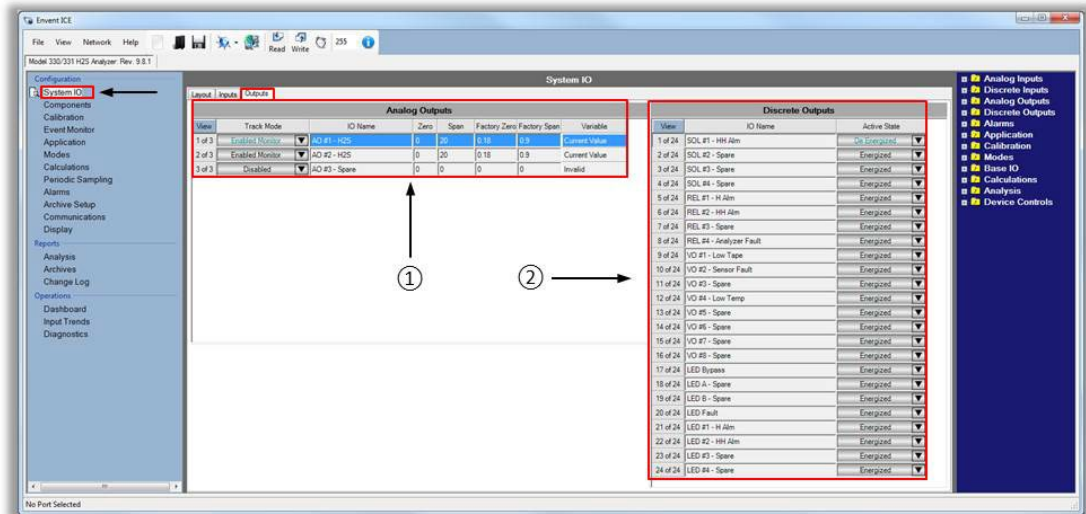

Figure 5. ICE Software: Configuration: System IO Tab: Outputs Tab
In this section of the ICE software, analog and discrete outputs are factory configured. To access the analog and discrete outputs, go to System IO>Output Tab. Refer to Figure 5.
This option allows activating or deactivating the analog output. Refer to Figure 5 area ①
IO Names are names assigned to the analog outputs. The name is up to the user's discretion. Figure 5 area ① shows the analog output names as "H₂S" as default for standard configurations.
These columns refer to the range being measured. Since the variables used for the analog outputs are the analyzer H₂S readings, the zero and span values are 0 to 20 ppm of H₂S (for standard configurations). Refer to Figure 5 area ①
In this section of the ICE software, discrete outputs are named and their status states are set-up. Refer to Figure 5 area ②.
IO Names are names assigned to the discrete outputs. The name is up to the user's discretion. Names are set-up according to the analyzer standard factory configuration file. These names are based on what alarm variable they are used for. These discrete output names will appear in the Output Controls column in the Alarm tab section. Refer to Figure 5 area ②.
Active state is the condition the discrete output will have when in alarm. If selected as "De-energized", the discrete output will be fail-safe. Refer to Figure 5 area ②.